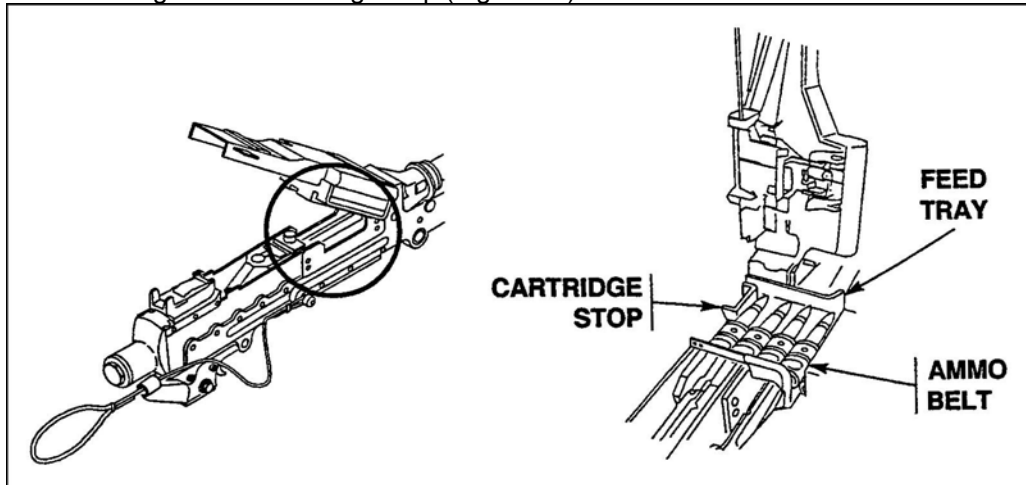

Figure 10. M240C feed tray.
- (d) Place the ammunition on the feed tray, ensuring the ammunition is resting fully against the cartridge stop (Figure 10).